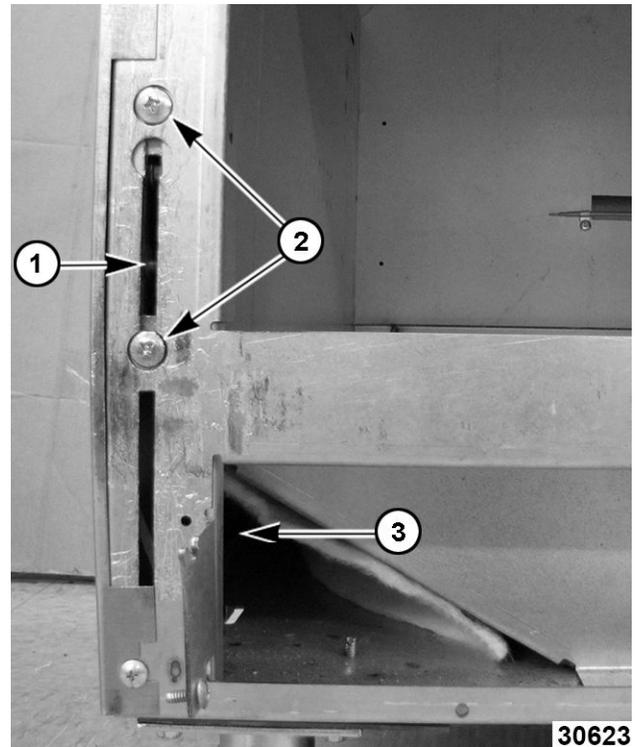

Fig. 104
2. Tie string or flexible wire around pin or roller (1, Fig. 104).
4. Slide stop bracket down cavity channel and out through opening (3, Fig. 104).